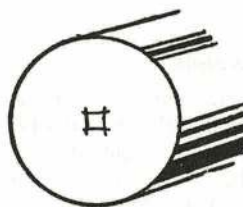

Fig. 2. FINDING CENTRE OF ROUGH BAR
6. **Finding Centre of Rough Bar.** Open out the legs of "odd-leg" calipers until they are at a distance which is rather less than the estimated radius of the bar. Scribe short arcs on the end of the bar from four positions, approximately equidistant from each other, round the circumference (Fig. 2). The centre of the bar lies at the centre of the small